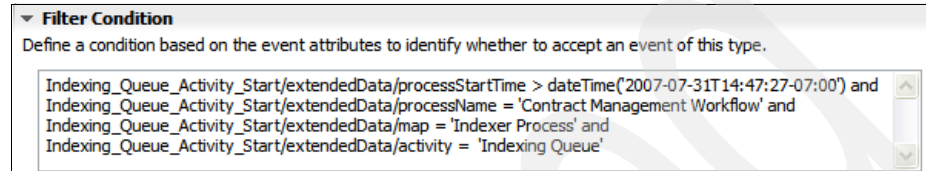

Figure 7-88 Filter Condition
4. Under Filter Condition (Figure 7-88), type the following condition: